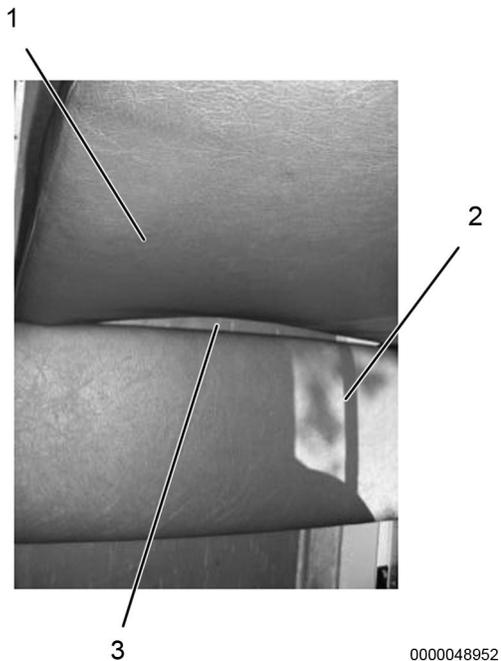

Figure 1. Bow in Seat Back.
3. Visually inspect passenger seat back (Figure 1, Item 1) for bowing (Figure 1, Item 3) between seat back and seat cushion (Figure 1, Item 2).
4. Inspect seat back (Figure 1, Item 1) by rapping on top face of seat back with a hand or fist to listen for a rattle in back pan.
5. Unlatch and lift seat cushion (Figure 1, Item 2) of each seat back (Figure 1, Item 1) suspected of needing repair.
7. Install and latch seat cushion (Figure 1, Item 2) of each seat back (Figure 1, Item 1) needing repair and place upholstery and foam assembly on floor in front of seat.